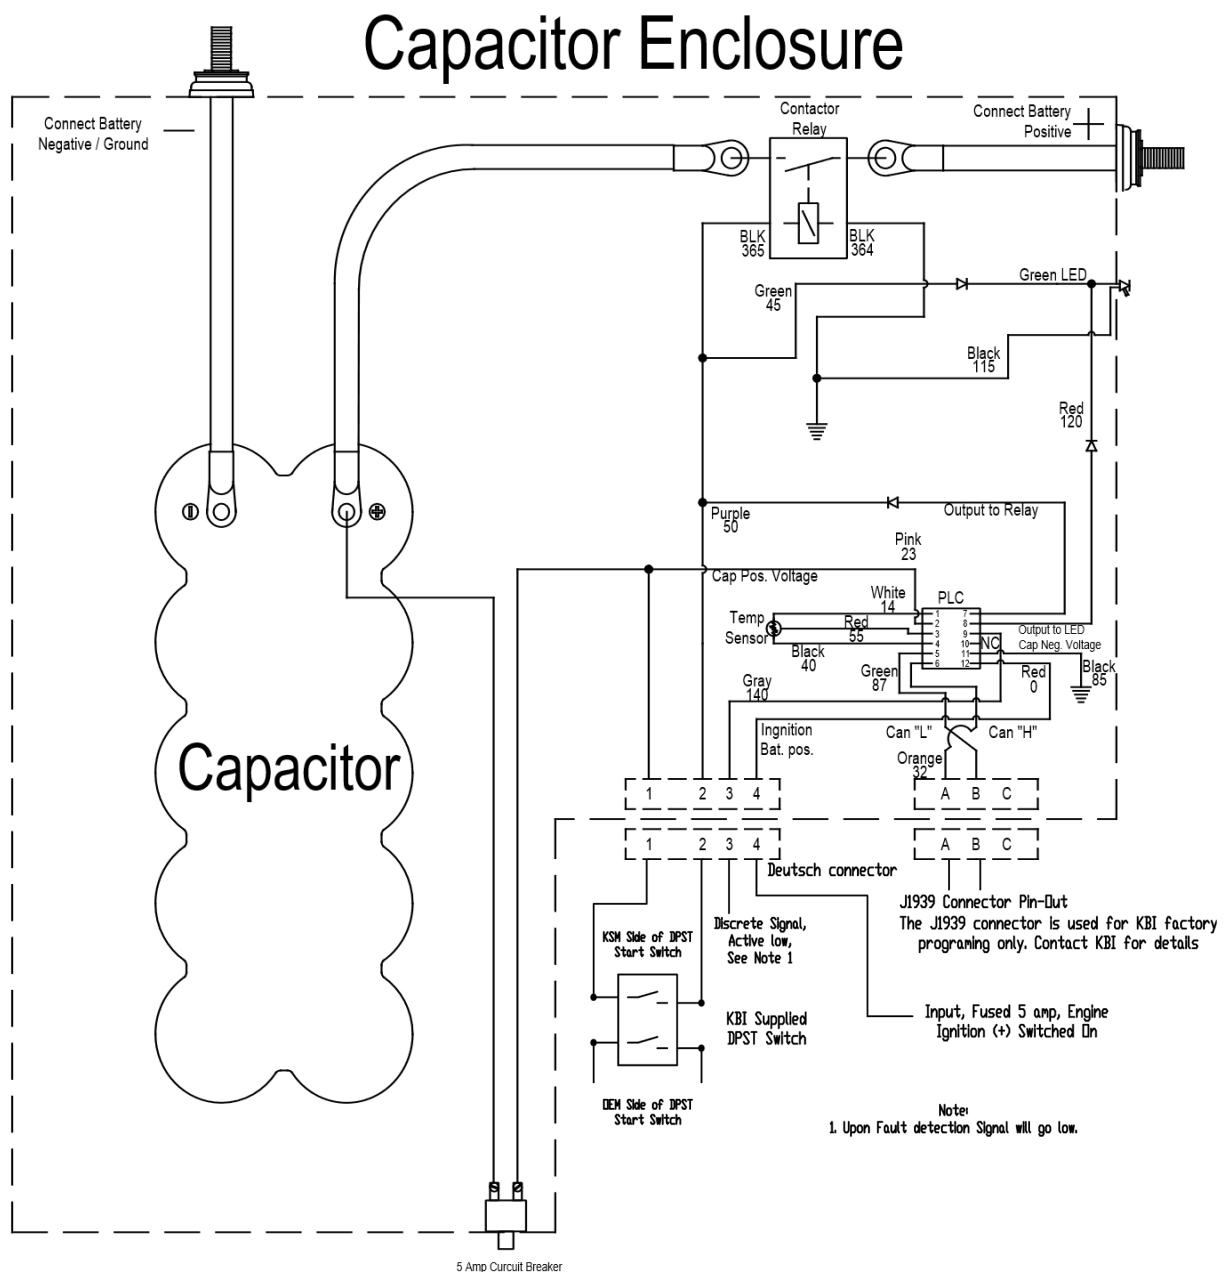
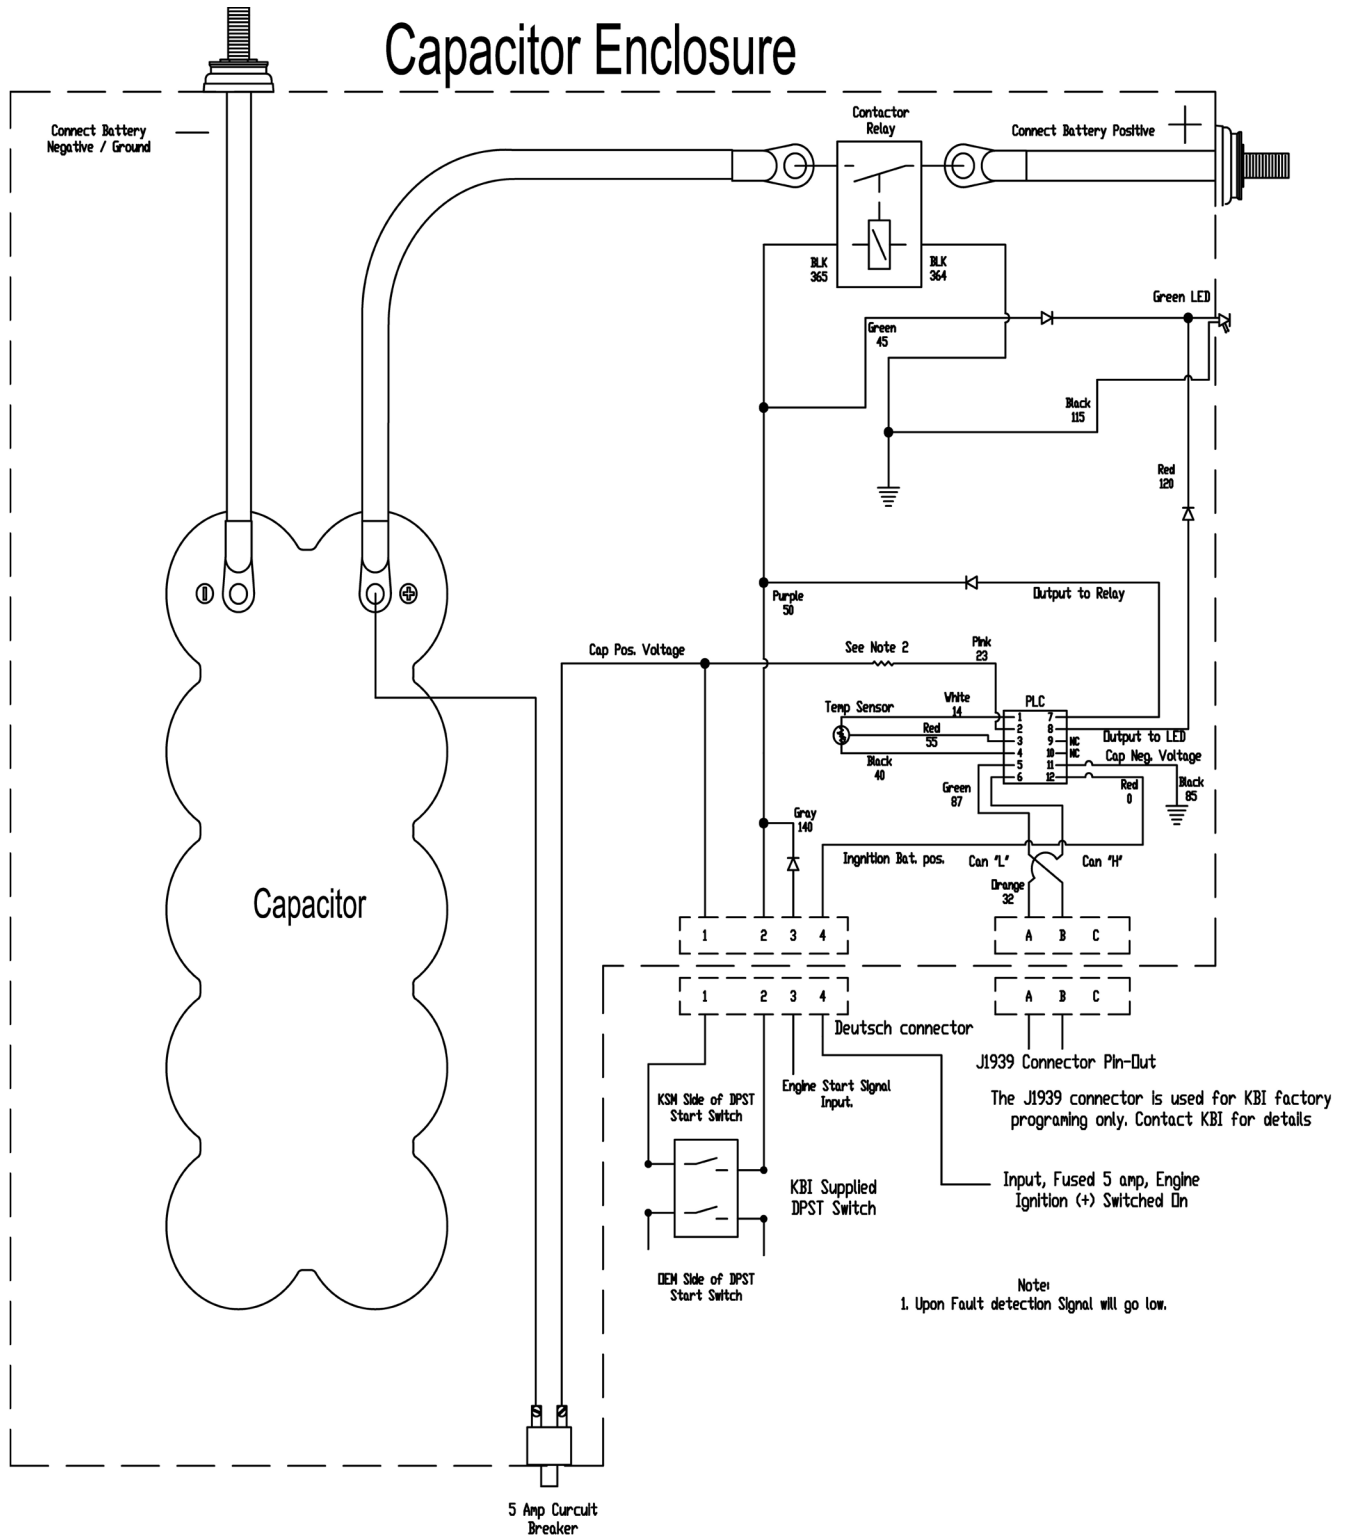

Figure 6: Standard KSM Schematic
Figure 7: Standard MKSM Schematic
Depressing the DPST switch closes the contactor inside the KSM enclosure, using power from the KAPower module, regardless of the state of charge of the vehicle or equipment's batteries. Depressing the DPST switch also engages the cranking motor circuit, just as if the key switch to the crank/start position had been turned, or the vehicle's or vessel's start button (if so equipped) had been pressed. The DPST switch is wired in parallel with the existing starting system. This is done by wiring and using the recommended electrical circuit, displayed on the schematics in Figure 5 (page 14), Figure 6 (page 16), or Figure 7 (page 17). This creates a parallel circuit with the OEM (Original Equipment Manufacturer) electrical circuit, allowing both the KSM and the OEM cranking motor circuit to be engaged, simultaneously. Once the engine starts, the Programmable Logic Controller (PLC) inside the KSM monitors the condition of the KAPower Module, and will close or open the contactor relay inside the KSM, based on the preprogrammed parameters inside the PLC. When the engine is stopped, the equipment is turned off. The contactor opens and the KAPower module remains isolated, waiting for the next engine-starting event, when the DPST switch is pressed.
3. As based on Figure 5, Figure 6, or Figure 7 create and wire the harnesses to the Deutsch connector. The KSM Deutsch connector has been provided with a mating connector that has pigtail wire leads tagged and identified in order to facilitate installation.
4. For the PLC input, pin four (4) of the wire interface connector, find a 5-amp power source from the vehicle, or vessel “key-on” ignition source that is live positive (+) **only**, when the ignition switch is on, and is capable of delivering up to 5 amps. This can often be sourced at the engine. Install a 5-amp fuse in this circuit within 7-inches of the power source. Use care not to disturb or compromise the engine’s own wiring harness, or connections.
5. Wire the DPST switch, and find and wire the appropriate PLC input (pin 4) as based and depicted on Figure 5, Figure 6, or Figure 7. Do not connect any wiring to the J1939 Connector. *The J1939 CAN-Bus is used for KBI Factory programming only. Contact KBI for details.*
2. This LED is also an indicator for how the KSM is functioning. The LED is connected in parallel with the contactor, and is also connected to an output on the PLC as shown in the Figure 6 and Figure 7. The PLC monitors the capacitor voltage during, and after, the recharge cycle. If the capacitor voltage drops below an acceptable level in the first 5 minutes after the recharge, the LED will flash, indicating a fault. If at any time while the PLC is powered up and the KSM Circuit Breaker trips or the capacitor voltage level drops below 6-volts (on a 12-volt unit) or 12-volts (on a 24-volt unit), the LED will flash in a sequence that indicates the fault, see Table 2.
1. If the wiring and harnesses are in good order, continue troubleshooting by unplugging the Deutsch connector on the end-faceplate of the KSM, providing access to the pin terminals on the KSM connector. Refer Figure 5, Figure 6, and Figure 7.